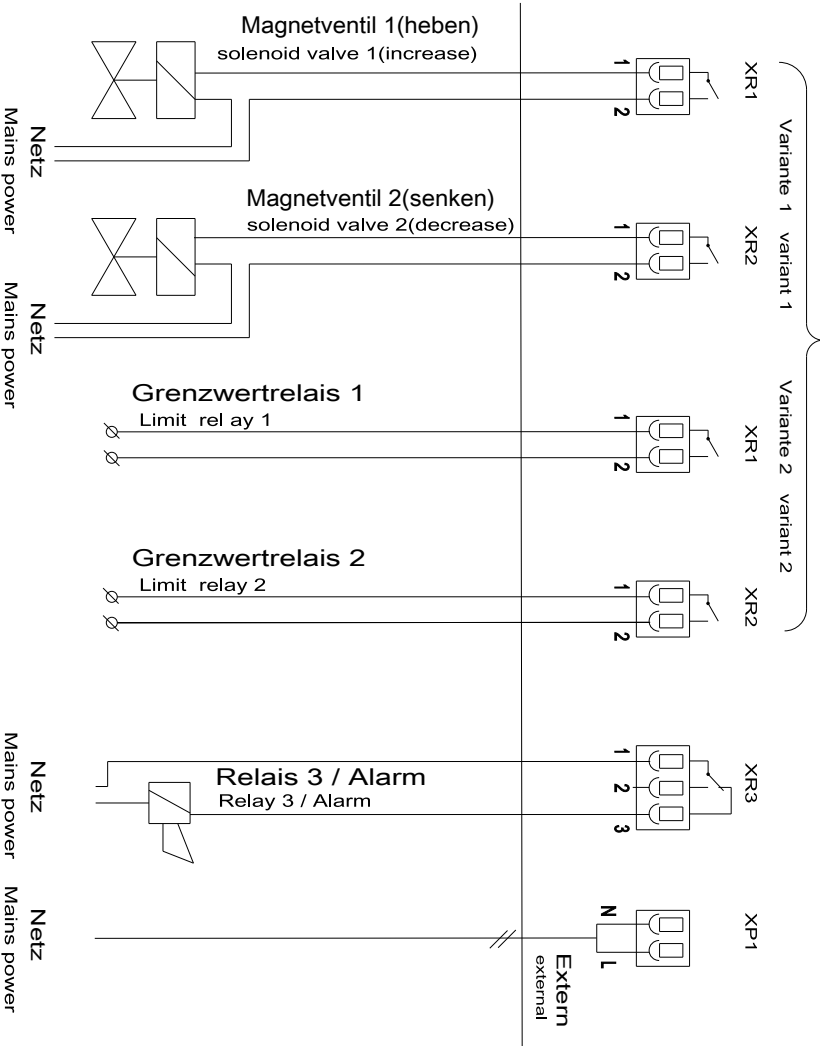

Fig. 11: Terminal diagram with assignment options 1
2. ➤ Fit screw connection (1), pressure ring (2) and seal (3) onto cable
8. ➤ Connect up the wires to the terminals according to the electrical wiring diagram Fig. 11